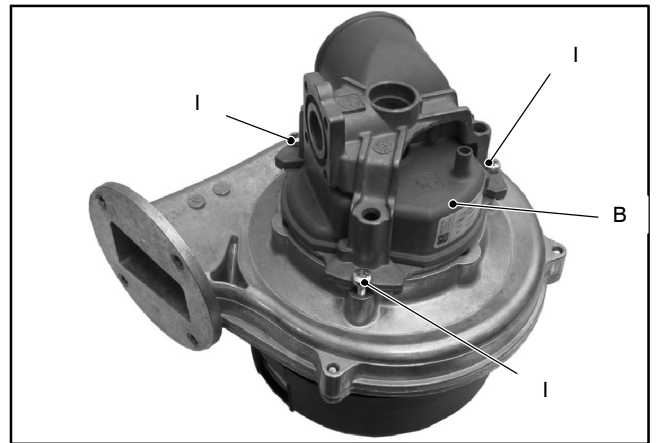

Fig. 10.3
- 9 Remove the screws *I* and the air box *B* (Fig. 10.3).